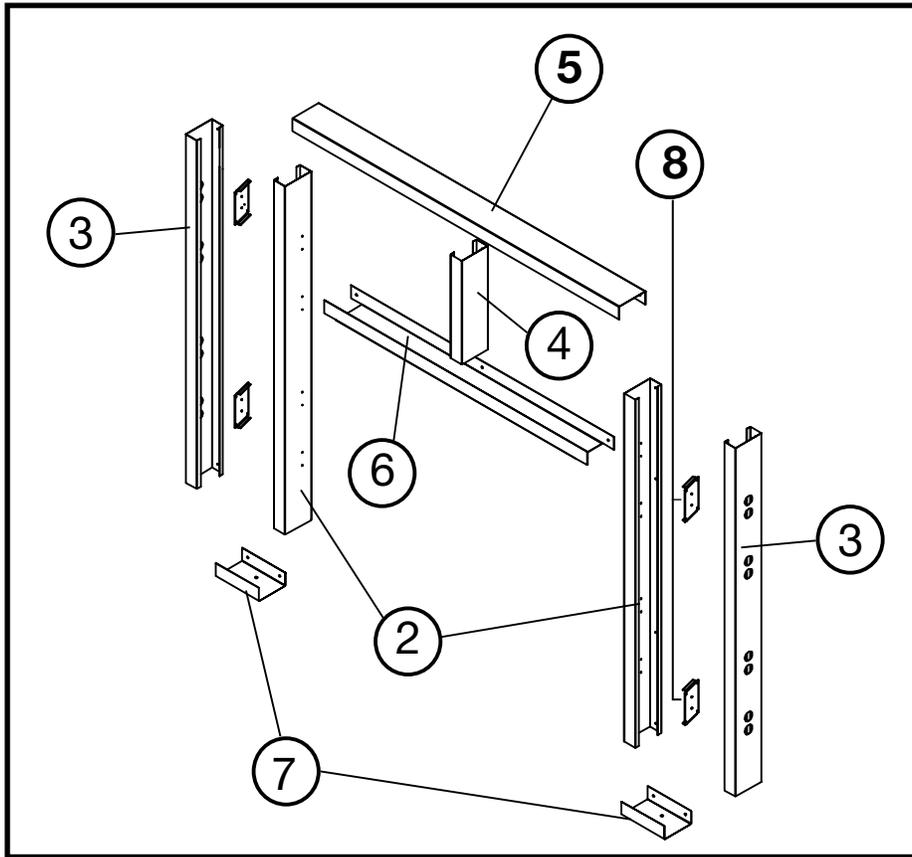

Figure 16: TC30 Framing kit parts.
**1. Top Frame Assembly** (Figure 16).
- Lay out side studs (2) and center stud (4) on a large flat surface.
- Using the screws provided (1), attach the header stud (5) and the plate stud (6) to the center stud (4).
**2. Attach Side Studs** (Figure 16).